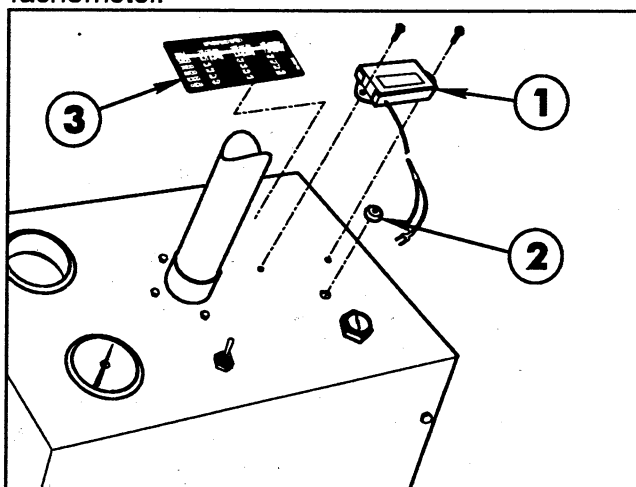

FIG. 1
1. Remove four (4) 1/4" x 5/8" washer hd cap screws to remove the rear panel from the Steering Console.
2. Install the Tachometer to the right side of the Steering Column using two (2) #8 x 5/8" hex hd machine screws, lock washers, and hex nuts. See FIG.1.
3. Route the Tachometer Cable through the hole in the top of the Steering Console below the Tachometer and install Grommet into hole around Cable. See FIG. 1.